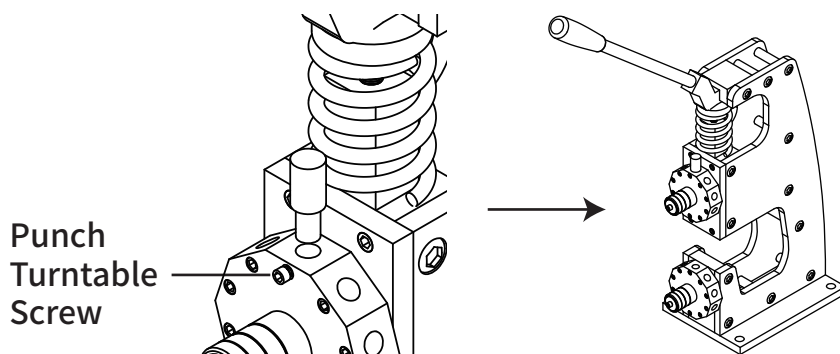

Fig.3
3. Fasten the punch head with fixing screw (I)(Fig. 3);